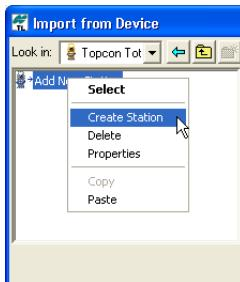

Figure 2-24. Creating a New Station
- To add a device, right click or double click the icon ‘Add New Station’ and select *Create Station* (Figure 2-24) from the pop-up menu.